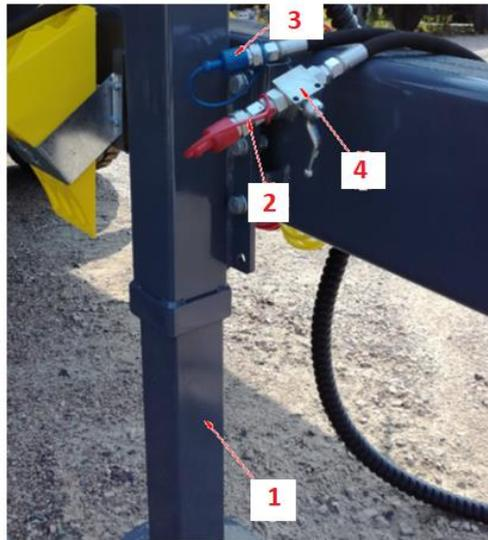

Fig. 16. Hydraulic foot. 1- foot, 2 - supply line, 3 - oil return line, 4 - shut-off valve
- with drawbar eye at the correct height, close the shut-off valve (pos. 4);
The trailer is equipped with a hydraulic support foot. When coupling the trailer, connect the supply line (pos. 2 in Fig. 16) and the return line (pos. 3) to the tractor's external hydraulic system.
Before uncoupling the trailer from the tractor, close valve No. 4 (see fig. 16)